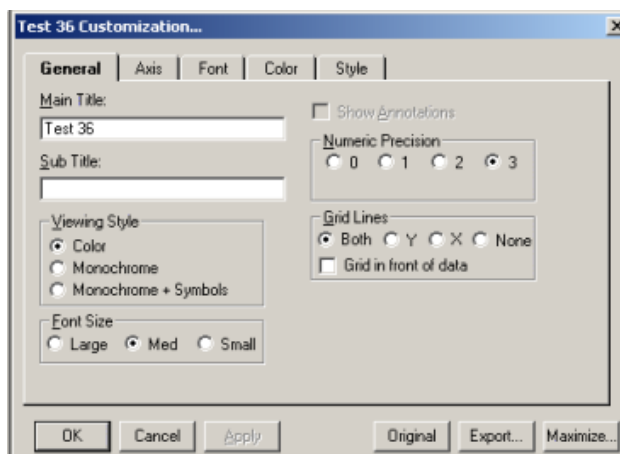

Figure 5-87 Customization Dialog Box—General Tab
3. Double-click anywhere within the graph to display the **Customization** dialog box. See Figure 5-87. Notice across the dialog box are five tabs: General, Axis, Font, Color, and Style. Also notice that there are six buttons along the bottom of the dialog box. They are the OK, Cancel, Apply, Original, Export, and Maximize buttons.
- **General Tab**—Use this tab to define general parameters. See Figure 5-87.